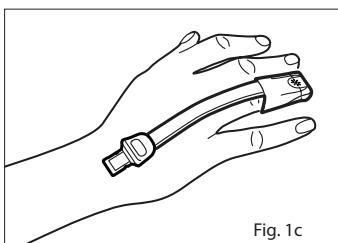

Fig. 1c
4. Refer to Fig. 1c. Fold the sensor over the finger with the emitter window (✳) positioned over the fingernail. Secure the wings down, one at a time, around the finger.